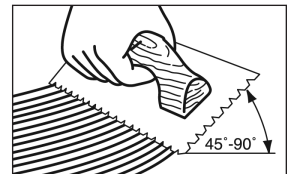

Figure 3
- Open times and curing times of ALL adhesives vary dependent upon subfloor porosity, air movement, humidity and room temperature. Urethane adhesive has a shortened working time in high humidity environments. In areas of low humidity, open time will be longer with urethane adhesives and shorter with some adhesives. Adjust the amount of adhesive spread on the subfloor accordingly. The adhesive should not be applied if subfloor or room temperature is below 60°F (16°C). Hold trowel at a minimum 45° angle (Figure 3) firmly against the subfloor to obtain a 50-60 ft.² (4-5.5 m²) per gallon spread rate (20-30 ft.² per gallon for Bruce® Summit Select or Bruce® ProConnect Plus spread with listed trowels) The trowel will leave ridges of adhesive and very little adhesive between the ridges. This method will allow you to still see the chalk lines between the ridges and provide the recommended spread rate.